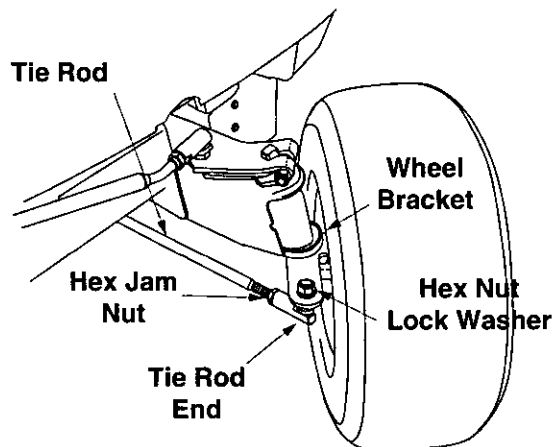

Figure 20
1. Remove hex nut and lock washer, and drop the end of the tie rod from the axle bracket. See Figure 20.